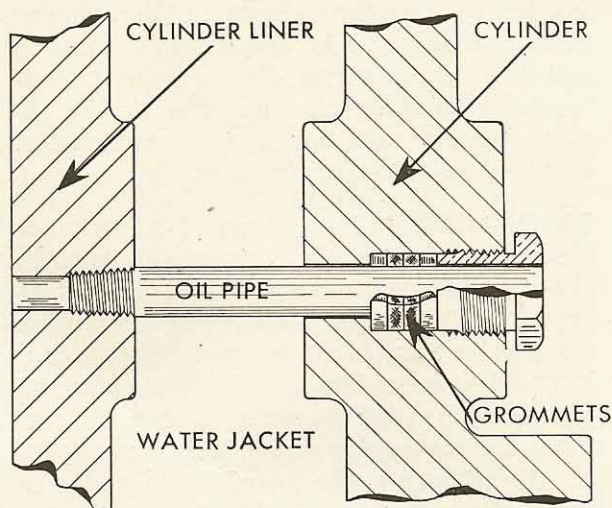

FIGURE 2-11
20. OIL PIPING TO CYLINDERS: The oil is piped to each cylinder by copper tubing. At the cylinder the piping is branched, with one line running to one side of the cylinder and the other going to the opposite side. The oil passes through the water-jacket space in a metal tube that screws into a hole in the cylinder liner. This tube is packed with rubber rings, called grommets, where it passes through the cylinder. This construction is shown in Figure 2-11. Whenever a liner is removed from a cylinder this tube should first be unscrewed and removed.